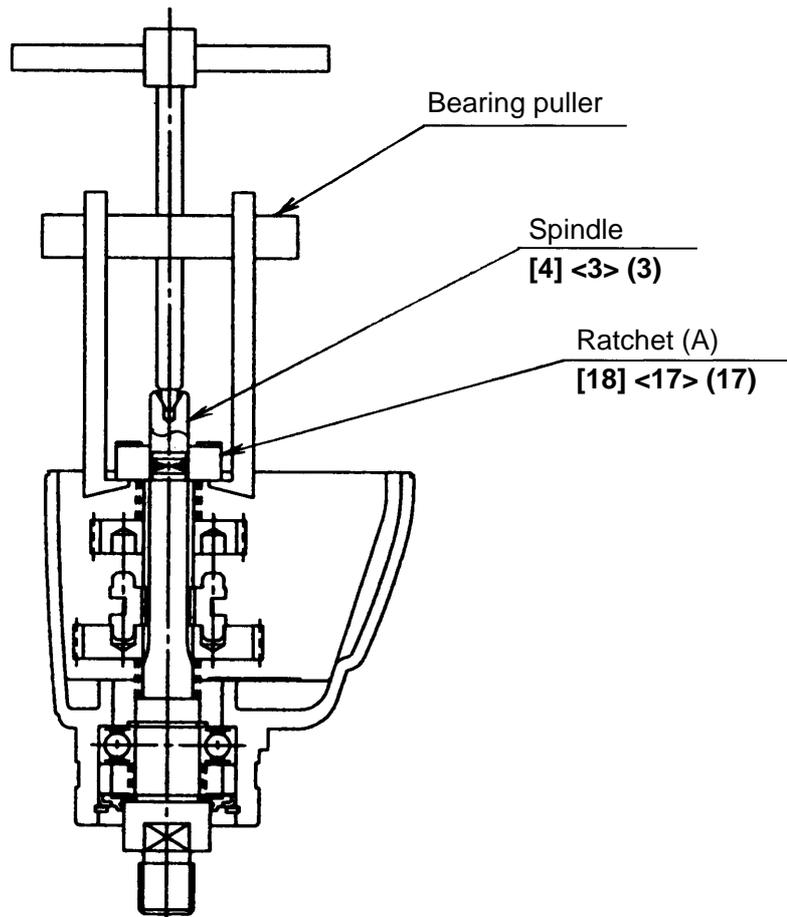

Fig. 12
(1) Removal of the ratchet (A)
Remove the Steel Ball [7] <6> (6) and the Second Pinion [24] <23> (23), then remove the Ratchet (A) [18] <17> (17) from the Spindle [4] <3> (3) using the bearing puller as shown in Fig. 12. Ratchet (A) is securely press-fitted to the Spindle, so a considerable amount of force is required to remove Ratchet (A). Do not reuse the removed Ratchet (A) because the press-fitting force between Ratchet (A) and the Spindle will be too low for proper operation.